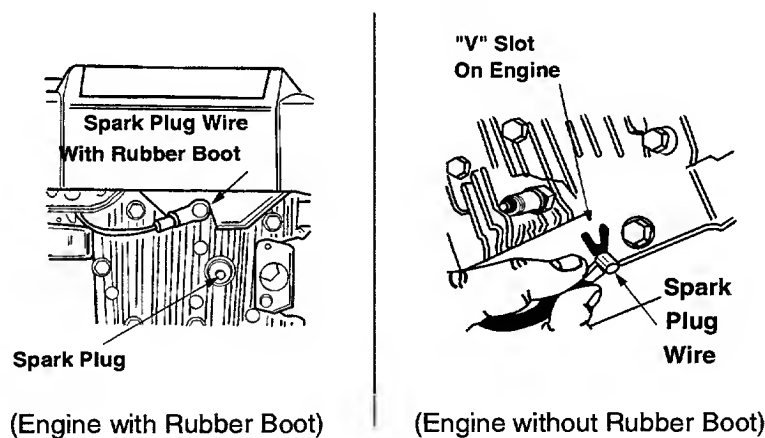

Figure 3
- Disconnect spark plug wire from the spark plug and ground it against the engine. On engines with a rubber boot, attach rubber boot to a bolt on the engine to ground. See Figure 3.